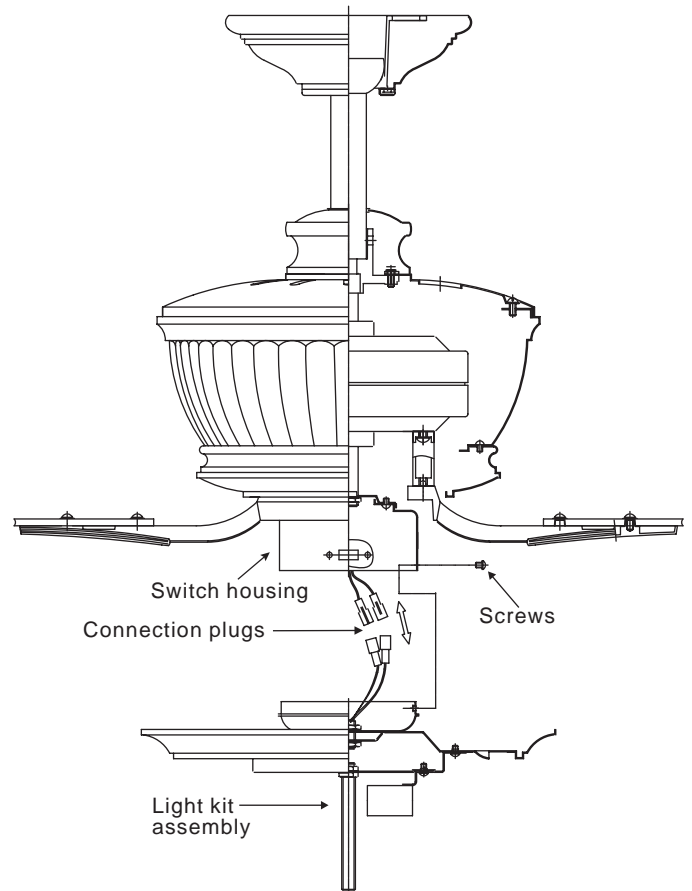

Figure 16
1. While holding the light kit assembly under your fan, snap together the wire connection plugs. (Fig. 16)
2. Carefully push all wires back into the switch housing, then install the light kit assembly onto the switch housing with 3 screws provided. Be sure to tighten all screws. (Fig. 16)